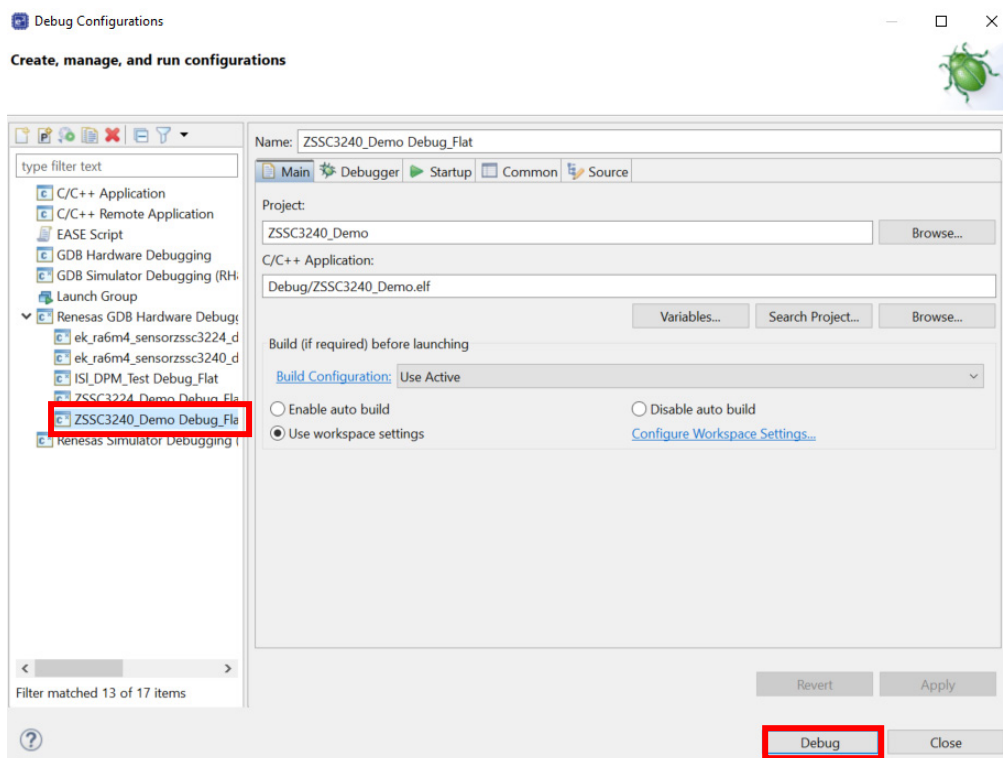

Figure 10. Start Debug Mode
- Select **Renesas GDB Hardware Debugging** → **ZSSC3240_Demo Debug_Flat** (see Figure 10).